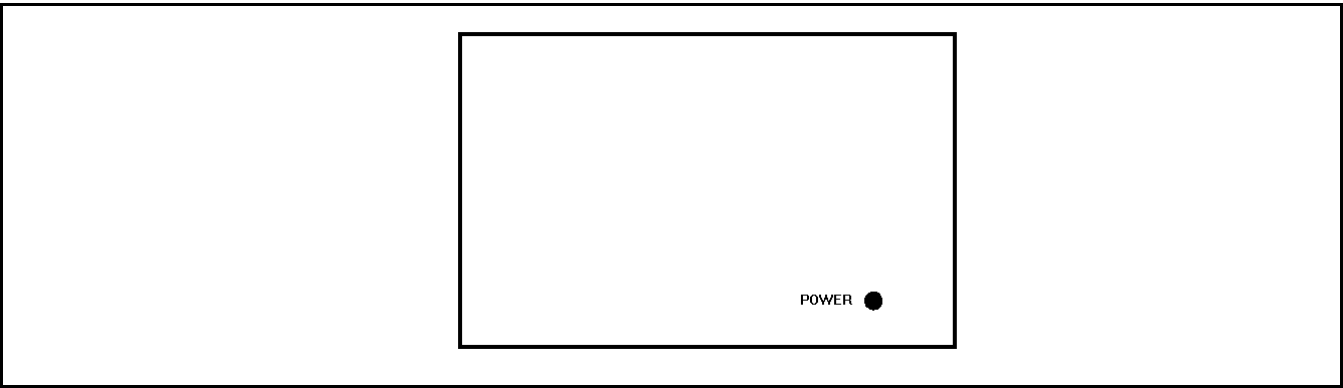

Figure 4 - Control Panel With Single LED Power Indicator
- **Standard Desk Top Station, Without Options** - The standard Station has only a single RED LED to indicate when the power supply is **ON** (see Figure 4).